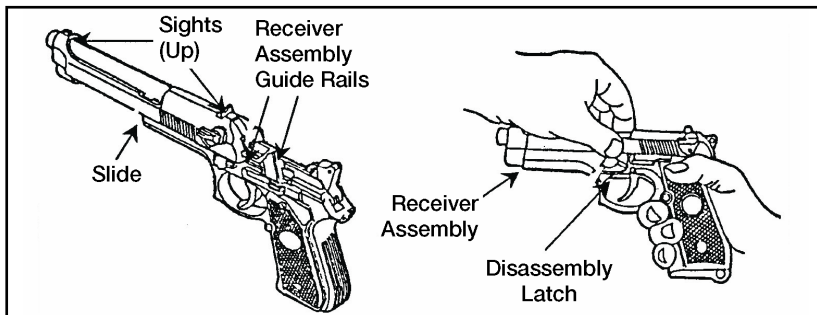

Figure 071-004-0001-8. Final assembly
g. Push until the rear of the slide is a short distance beyond the rear of the receiver assembly and hold. At the same time, rotate the disassembly latch lever upward. A click indicates a positive lock (figure 071-004-0001-8).
(1) Insert the follower into the top coil of the magazine spring. Make sure the notches on the follower and magazine tube are on the same side.
(2) Insert the magazine spring with follower into magazine tube.
(3) Turn the magazine bottom up, with its backside against the palm of the hand. Attach and center the floor plate retainer on the bottom spring coil.